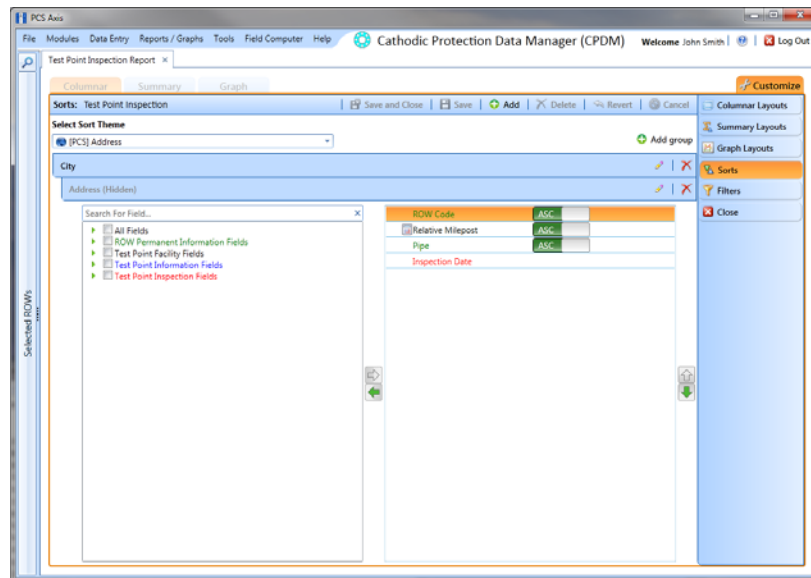

Figure 14-36. Sorts
- 3 Click the **Customize** tab  then the **Sorts** button  to open the *Sorts* page (Figure 14-36).